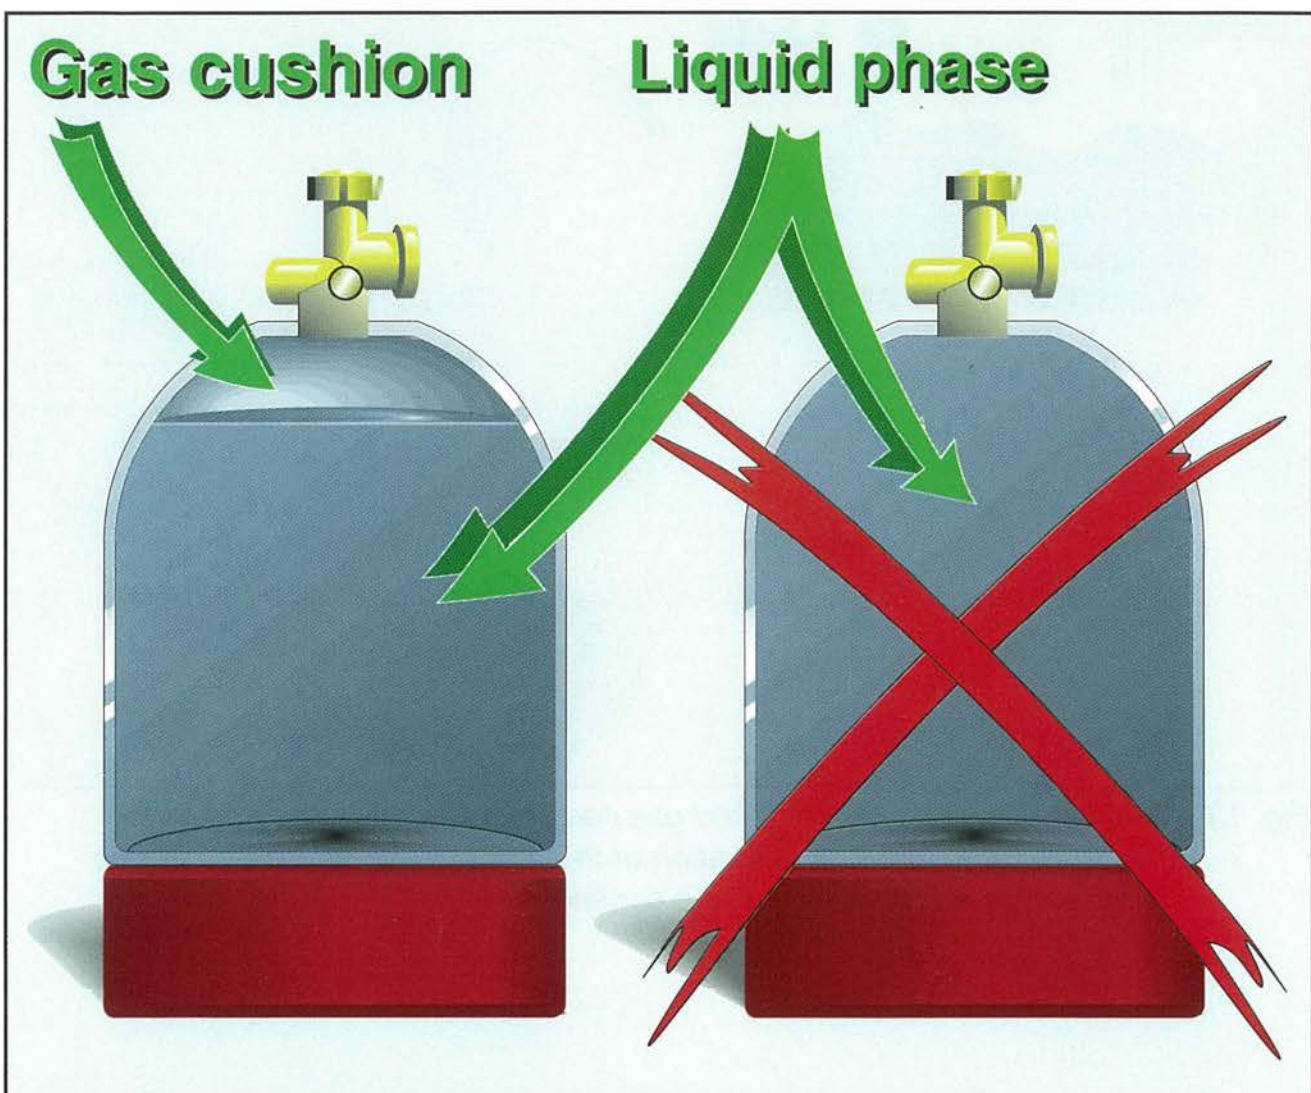

Fig. 14: Gas cushion in liquefied gas containers as a safety measure (fill level in compliance with national regulations)
- With the temperature rise, the volume of the liquid medium also increases. It is thus always necessary to have a gas cushion in the liquefied gas container for safety's sake (Fig. 14).